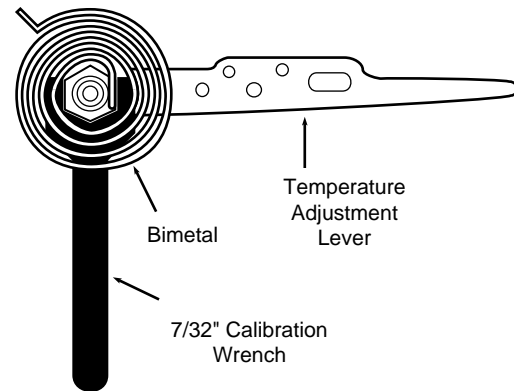

Figure 12. Calibrating Thermostat
3. Remove thermostat cover. Slip $7/32$ " wrench onto hex nut beneath bimetal. While holding temperature adjustment lever stationary, turn hex nut clockwise until mercury shifts to right end of tube (see Fig. 12).
7. Slip $\frac{7}{32}$ " wrench onto hex nut. While holding temperature adjustment lever stationary, turn hex nut counter-clockwise until mercury just barely shifts to left end of the tube (see Fig. 12).